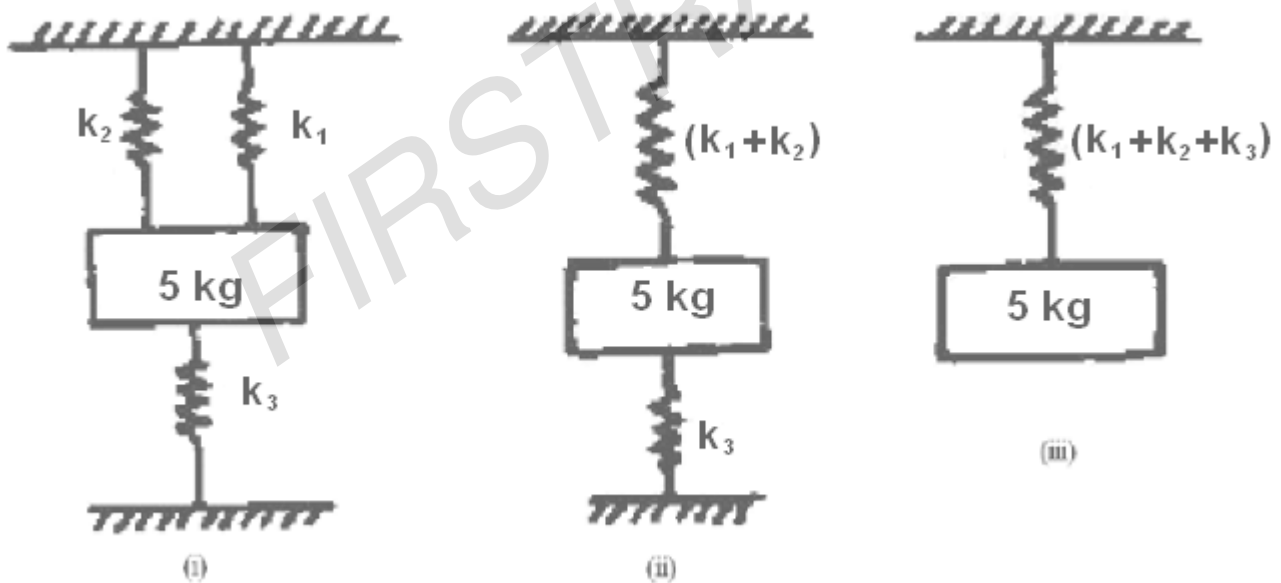

Figure 3:
7. (a) Determine the natural frequency of the system shown in figure 3. Assume $k_1 = k_2 = 1200 \text{ N/m}$, $k_3 = 1800 \text{ N/m}$.